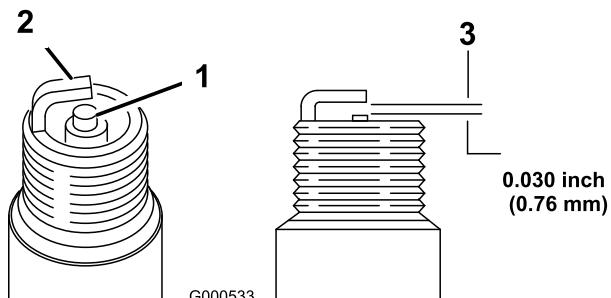

Figure 44
1. Look at the center of the spark plug(s) (Figure 44). If you see light brown or gray on the insulator, the engine is operating properly. A black coating on the insulator usually means the air cleaner is dirty.
2. Check the gap between the center and side electrodes (Figure 44). Bend the side electrode (Figure 44) if the gap is not correct.